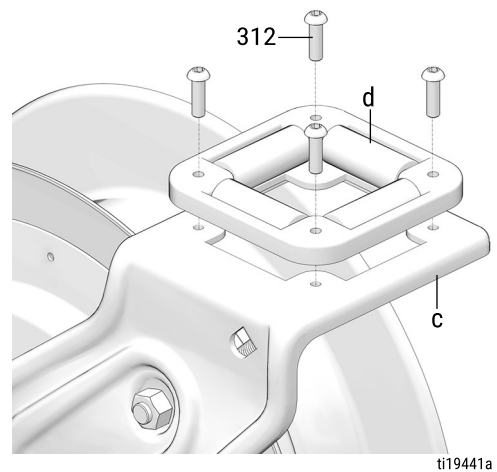

FIG. 13
- c. Loosen and remove the four screws (312) holding the reel guide (d) to the reel guide arm (c). Completely remove the reel guide and cord stop (FIG. 13).